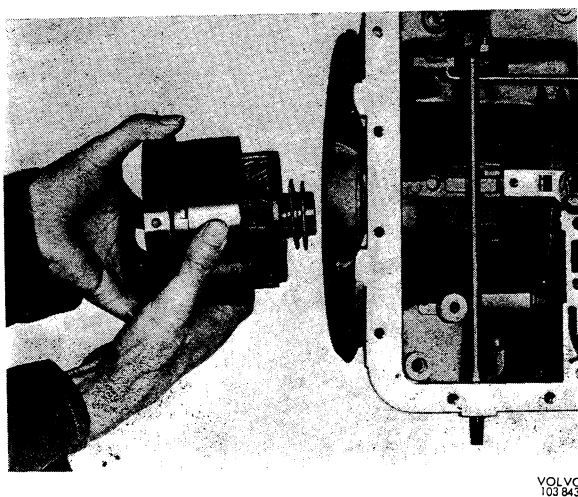

Fig. 4-96. Installing centre support and planet gears with needle thrust bearing and plate washer
8. Assemble the planet gear, one-way clutch and centre support, see Fig. 4-96. Stick the thrust plate and needle thrust bearing to the planet cover with vaseline.